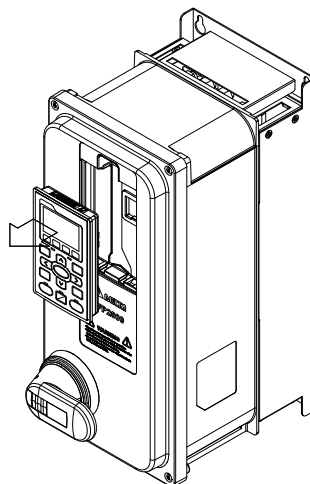

Figure 6-7
- 1) Remove the keypad. (As shown in Figure 6-7)